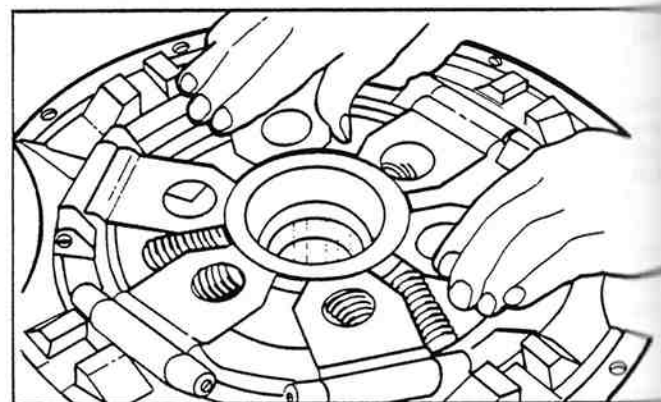

Figure 5-6. Turn Adjusting Ring D-1.
7. Turn the adjusting ring and lever assembly counter clockwise until free of flywheel ring. Then lift and remove assembly (figure 5-6).